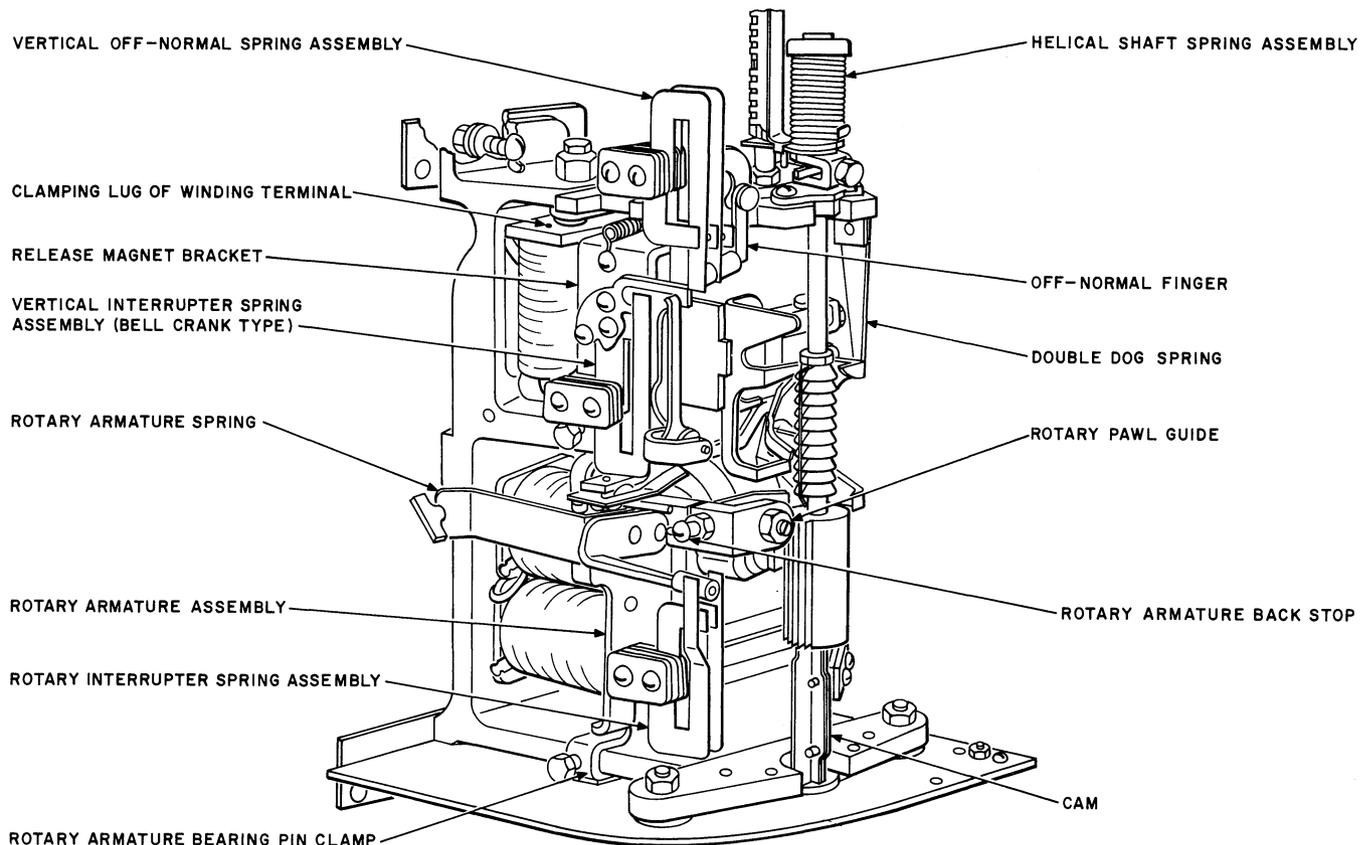

Fig. 19 — Parts of 197-Type Switch as Viewed From the Left Side
Fig. 19 and 20
(1) To replace the release magnet bracket, remove the release armature as described in 3.23(1) and remove the release link as described in 3.25. On switches equipped with a bell crank operated vertical interrupter spring assembly per Fig. 19, remove the screws which hold the spring assembly bracket to the release magnet bracket with the 3-inch C screwdriver and remove the spring assembly. Remove the screw which holds the magnet to the magnet bracket with the 4-inch E screwdriver. When replacing the release magnet bracket on switches having a cover stud mounted in place of the left magnet mounting screw, mount the cover stud in place of the bracket mounting screw to the right of the shaft. On switches equipped with the type vertical interrupter spring assembly per Fig. 5 and 6, remove the screws which mount this assembly, using the 4-inch E screwdriver. This will permit the assembly to be moved away from the switch sufficiently to permit the withdrawal of the magnet bracket.
(2) Remove the screw at the bottom of the magnet bracket with the 4-inch E screwdriver. Remove the release magnet bracket mounting screw or screws, and where provided, remove the switch cover guide stud from the front of the frame on the left with the 4-inch E screwdriver. Withdraw the magnet bracket from the left-hand side of the switch, taking care that the connections of the magnet and vertical interrupter springs are not broken or strained in this operation.
(3) Place the new magnet bracket in position. Remount the switch cover guide stud, where provided, in the mounting hole to the right of the shaft. Discard one mounting screw, leave the mounting hole to the left of the shaft empty, tighten the magnet bracket mounting screw, and fasten the magnet in position on the magnet bracket. Remount the vertical interrupter spring assembly. Remount the release armature and release link as described in 3.23 and 3.25 respectively.